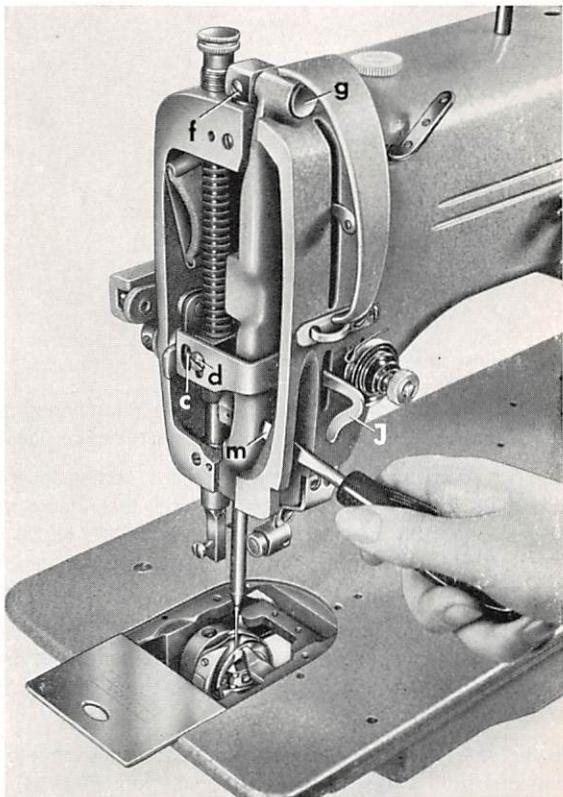
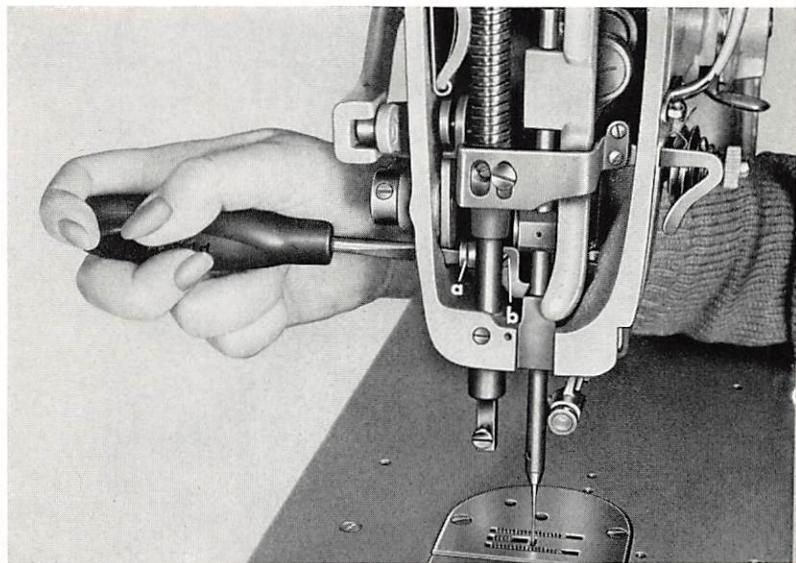

Fig. 28
Fig. 36
Thread regulator J (Fig. 28) is mounted on the presser bar guide collar and moves up and down with the presser bar as the sewing foot passes over irregularities in thickness. By so doing, it adapts the thread consumption to the varying thicknesses of the material being sewn. As a result of this action, the check spring has to take up less thread when thicker portions of the material pass under the sewing foot.
Thread regulator J can be adjusted vertically after loosening screw d (Fig. 28). By setting the thread regulator higher or lower the amount of thread to be controlled by the thread check spring can be adjusted within certain limits. It is recommended to correlate the thread regulator and tension barrel settings so that the thread check spring not only takes up the proper amount of thread, but also pulls the thread upwards perpendicularly.
If adjustment is required, loosen set screw m (Fig. 28) and set the needle bar higher or lower, as may be required.
2. Take out pressure regulating screw and remove presser bar spring. Loosen set screw **c** (Fig. 28) and pull the presser bar up out of the machine.
Pull thread regulator **J** (Fig. 28), presser bar guide collar and presser bar lifting bracket back out of the machine.
3. Remove complete needle bar frame assembly so that the height setting of the needle bar will not be disturbed. To do this, loosen set screw **b** (Fig. 36) and remove eccentric stud **a**. Then loosen screw **f** (Fig. 28) and pull out hinge stud **g**. This done, pull the needle bar frame, enclosing the needle bar, forward out of the machine.
When the machine is set for its widest zigzag stitch, the needle should be centered correctly in the needle plate slot and, descending on the right and left of its throw, should clear both ends of the slot at the same distance. If adjustment is required, loosen pinch screw **b** (Fig. 36) and turn eccentric stud **a** in the needle bar frame pitman to the right or left, as may be required.